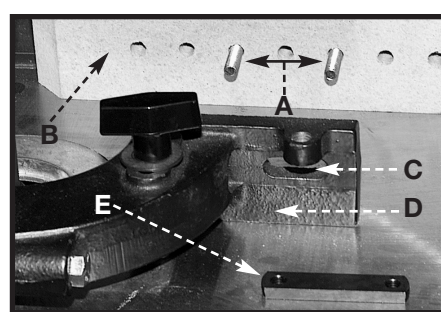
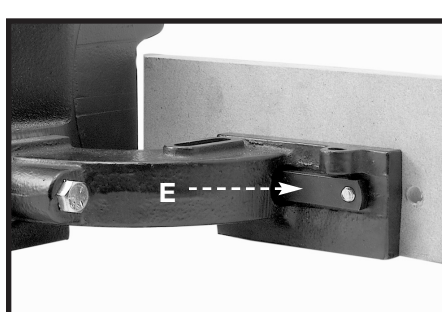

Fig. 22
Fig. 23
2. Insert two 5/16-18 x 1-1/2" round head screws (A) Fig. 22 into two of the holes in the wooden fence (B) and through the slotted holes, one of which is shown at (C) in the fence casting (D). Thread the two screws (A) into the threaded holes in strap (E) Fig. 22 and (E) Fig. 23.